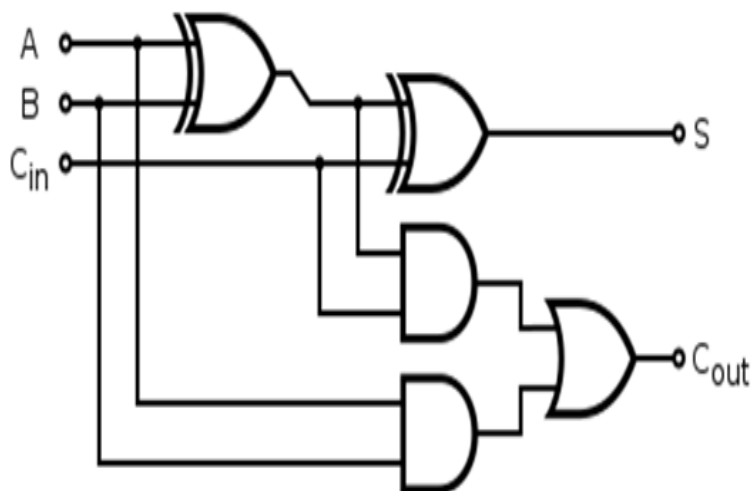

Fig. 5.5 Full adder Schematic
Full adder schematic drawn, based on the sum and carry expressions is shown in Fig. 5.5.
2. Build full adder circuit as shown in Fig. 5.5 on the digital board.